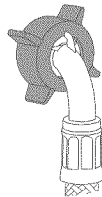

Fig.4 Washer end of hose
- 2 Install elbow ends onto clothes washer (inlet valves are marked on the back of the washer H=hot, C=cold) (refer to Fig.4).